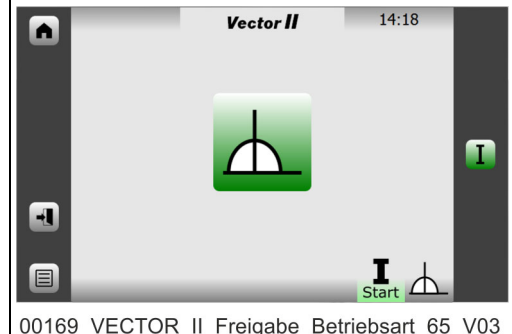

Fig. 109 Release prompt
7. The release prompt (**Fig. 109**) appears and prompts the release by flashing "Start".